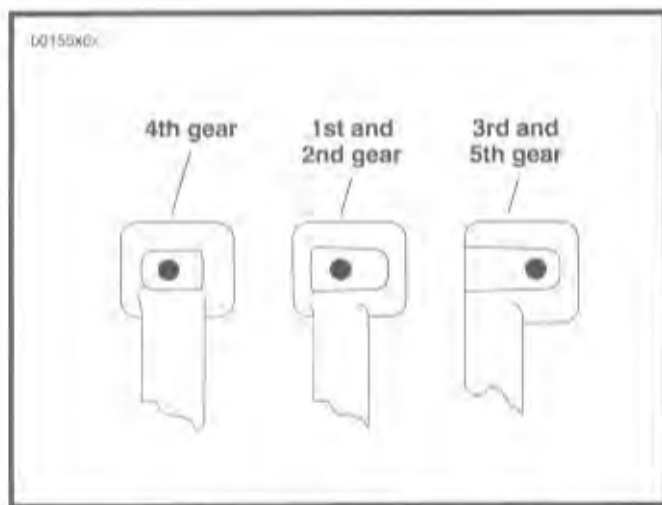

Figure 6-25. Shifter Fork Identification
1. See Figure 6-25 for shifter fork identification. See Figure 6-24. Lubricate the shaft bore in fork (1) with Sport Transmission Lube. Place 3rd and 5th gear shifter fork (1) in the fork groove of mainshaft 2nd gear. Be sure the flat side of fork is facing the access cover.